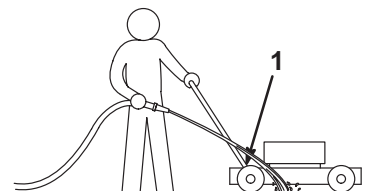

Figure 19
3. Hold the running garden hose at handle level and direct the water to flow on the ground just in front of the right rear tire (Fig. 19).